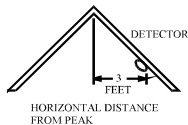

Figure 5: Recommended location to mount smoke and heat detectors in rooms with sloped, gabled, or peaked ceiling
- ◆ If some of your rooms have sloped, peaked, or gabled ceilings, try to mount detectors 3 feet (0.9 meter) measured horizontally from the highest point of the ceiling as shown in Figure 5.